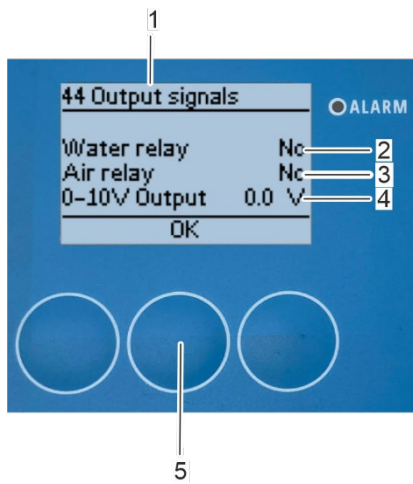
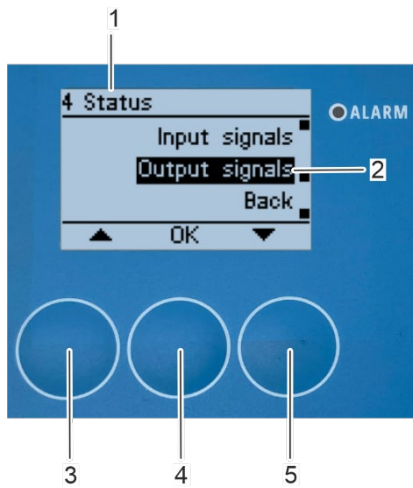

Fig. 180: Submenu „44 Output signals“
Fig. 181: Submenu “4 Status”
⇒ The "44 Output signals" submenu appears on the display (Fig. 180/1) showing the actual status of the "Water relay" (Fig. 180/2), the "Air relay" (Fig. 180/3) and the "0-10 V Output" (Fig. 180/4).
The output signals "Water relay" (Fig. 180/2) and "Air relay" (Fig. 180/3) show "Yes" if there is an input signal. The "0-10V Output" (Fig. 180/4) shows the currently applied voltage in a range from 0 to 10 V.
3. Press [OK] (Fig. 180/5) to return to the submenu "4 Status" (Fig. 181/1).
⇒ The “4 Status” submenu appears on the display (Fig. 181/1).